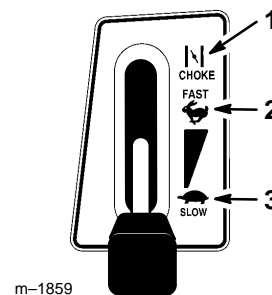

Figure 8
5. Move the throttle lever to "CHOKE" (Fig. 8).
7. After the engine starts, slowly move the throttle lever to "FAST" (Fig. 8). If the engine stalls or hesitates, move the throttle lever back to "CHOKE" for a few seconds. Then move the throttle lever to "FAST." Repeat this as required.
1. Move the throttle lever to “SLOW” (Fig. 8).